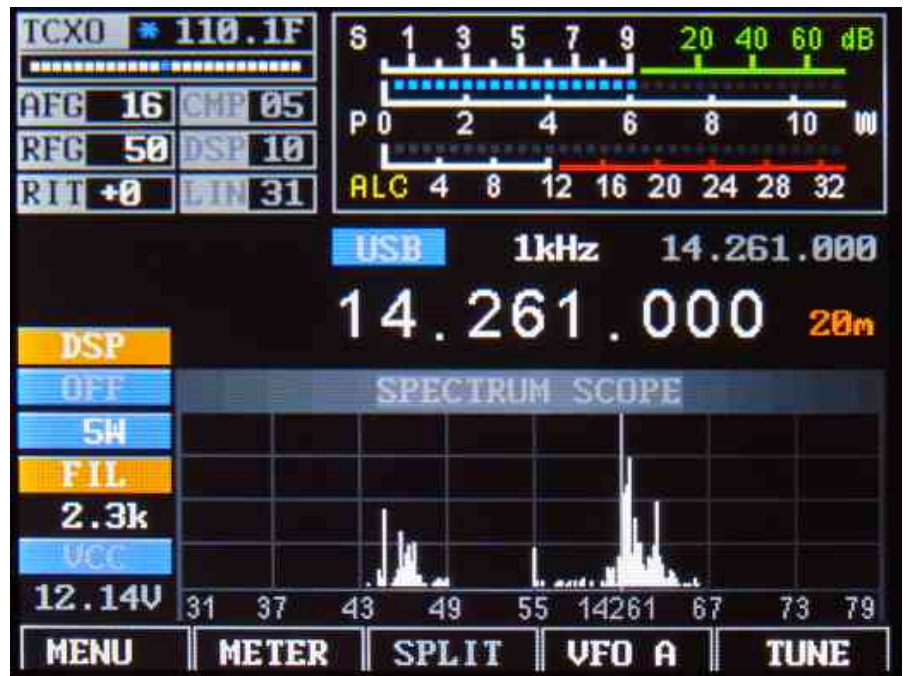
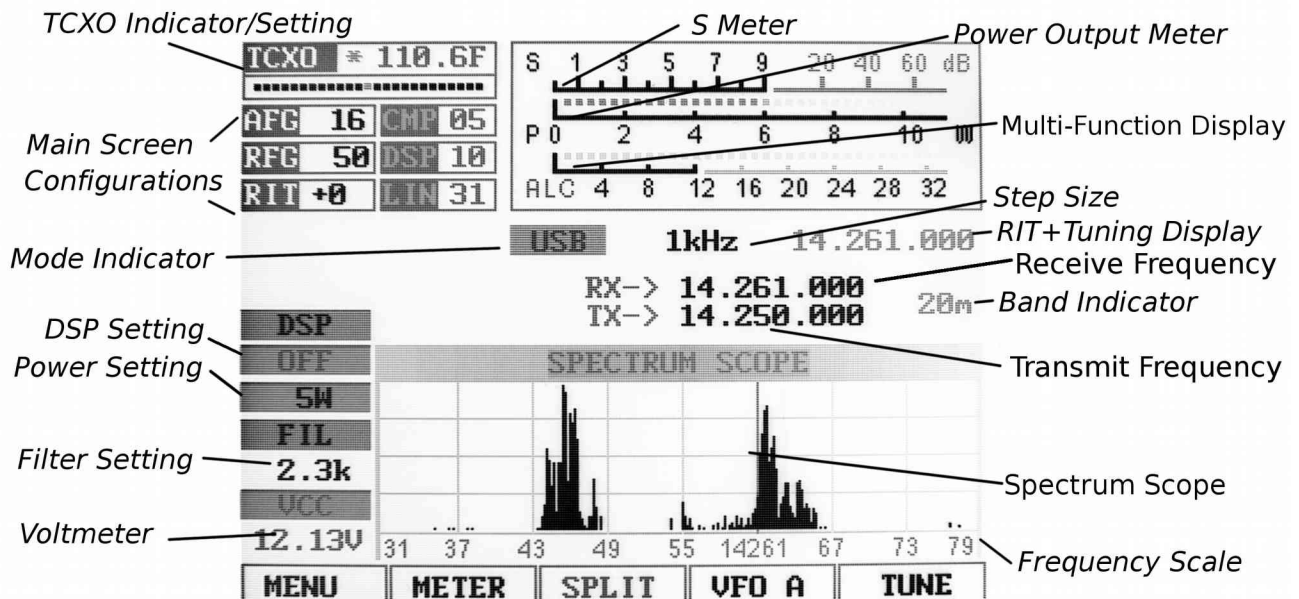

Figure 2: Main display of the mcHF transceiver.
Figure 3: The main screen (annotated) with the SPLIT function activated.
- **Main Frequency Display:** This may be displayed either as a single frequency (transmit/receive as in **Figure 2**) or as a “Split” display as shown in **Figure 3** with separate transmit and receive frequencies. If the numbers in this display are **grey** the “Frequency Lock” (toggled by pressing-and-holding both the **STEP-** and **STEP+** buttons simultaneously, or configured in the menu) is active. If this display is **yellow**, a transverter offset has been configured.
- **Step Size Indicator:** Above the center of the main frequency display, between the Mode Indicator and the “Sub” Frequency display is the setting of the current step size. In **Figures 2 and 3** the step size is set to 1 kHz. Optionally, a “marker” may be activated that puts a line under the digit indicating the currently-selected step size (see the menu item “**Step Size Marker**”).
- **TCXO Mode/Display:** In the top-left corner the “TCXO” box indicates whether the TCXO (Temperature-Compensated Xtal Oscillator) is active or not. The TCXO is used to read the temperature of the Si570 synthesizer (U8 on the RF board) - which should be thermally-bonded to the temperature sensor, U10, with a piece of copper or aluminium - and apply a compensation to it to keep on frequency. When it is active the bar graph below the temperature display will display white dots with a blue marker that moves about but when set to “Off”, the bar graph will be grayed out. If set to “Stop” the temperature display will be replaced with “STOPPED”. In **Figures 2 and 3** the TCXO is set to ON and displaying a temperature of 112.5F, but this may be set to display the temperature in Centigrade. If the temperature is very low (*below 0C or 32F*) this will display dashes and the temperature compensation will be disabled until the temperature-coupled synthesizer/sensor exceed this minimum threshold.
- **S-Meter:** This S-meter is nominally calibrated so that S-9 equals 50 microvolts into a 50 ohm load with each S-unit representing 6 dB. Practically speaking, the usable range of the S-meter ranges from about S-3 to something a bit higher than “40 over” which, if you were “run the numbers” about matches the dynamic range of the receiver! The bottom half of the S-Meter's graticule (“S0-S9”) is normally white in color, but if the receiver's A/D converter experiences an overload condition, it will turn red. On bands with strong signals it is normal for this to momentarily flash red as the internal gain control adjusts itself. In **Figures 2 and 3** the S-meter is displaying a signal level of S-9.
- **FIL:** Below this is the current filter bandwidth setting, selectable by using button **G4**. In **Figures 2 and 3** the bandwidth is shown being set to 2.3 kHz.
- **Power Output Setting:** Just above the **FIL** icon is the currently-selected output power setting, selectable using button **G3**. In **Figures 2 and 3** the power is shown being set to 5 watts.
Below the frequency readout, shown in **Figure 2** and **Figure 3** is a spectrum display that shows signals that are on either side of the current tuned frequency. Along the bottom of the spectrum display is a frequency scale that shows the frequency scaling of the graticules rounded to the nearest kHz.